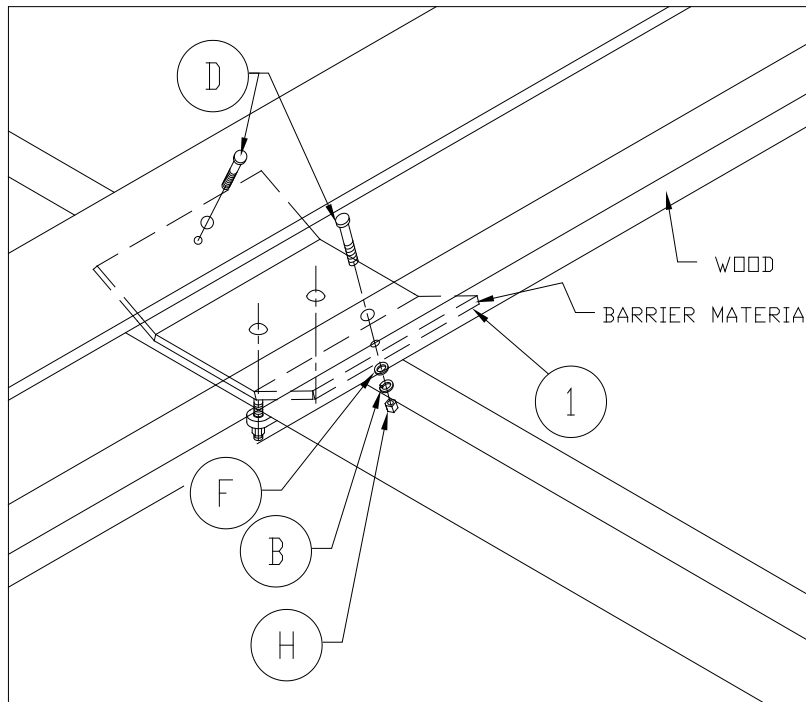

Figure 2-3.
1. **Refer to Figure 2-3.** Place two of the 2" x 6" x 16' pressure treated wood into the Mounting Plates. Ensure that the ends of the wood are even with one another.